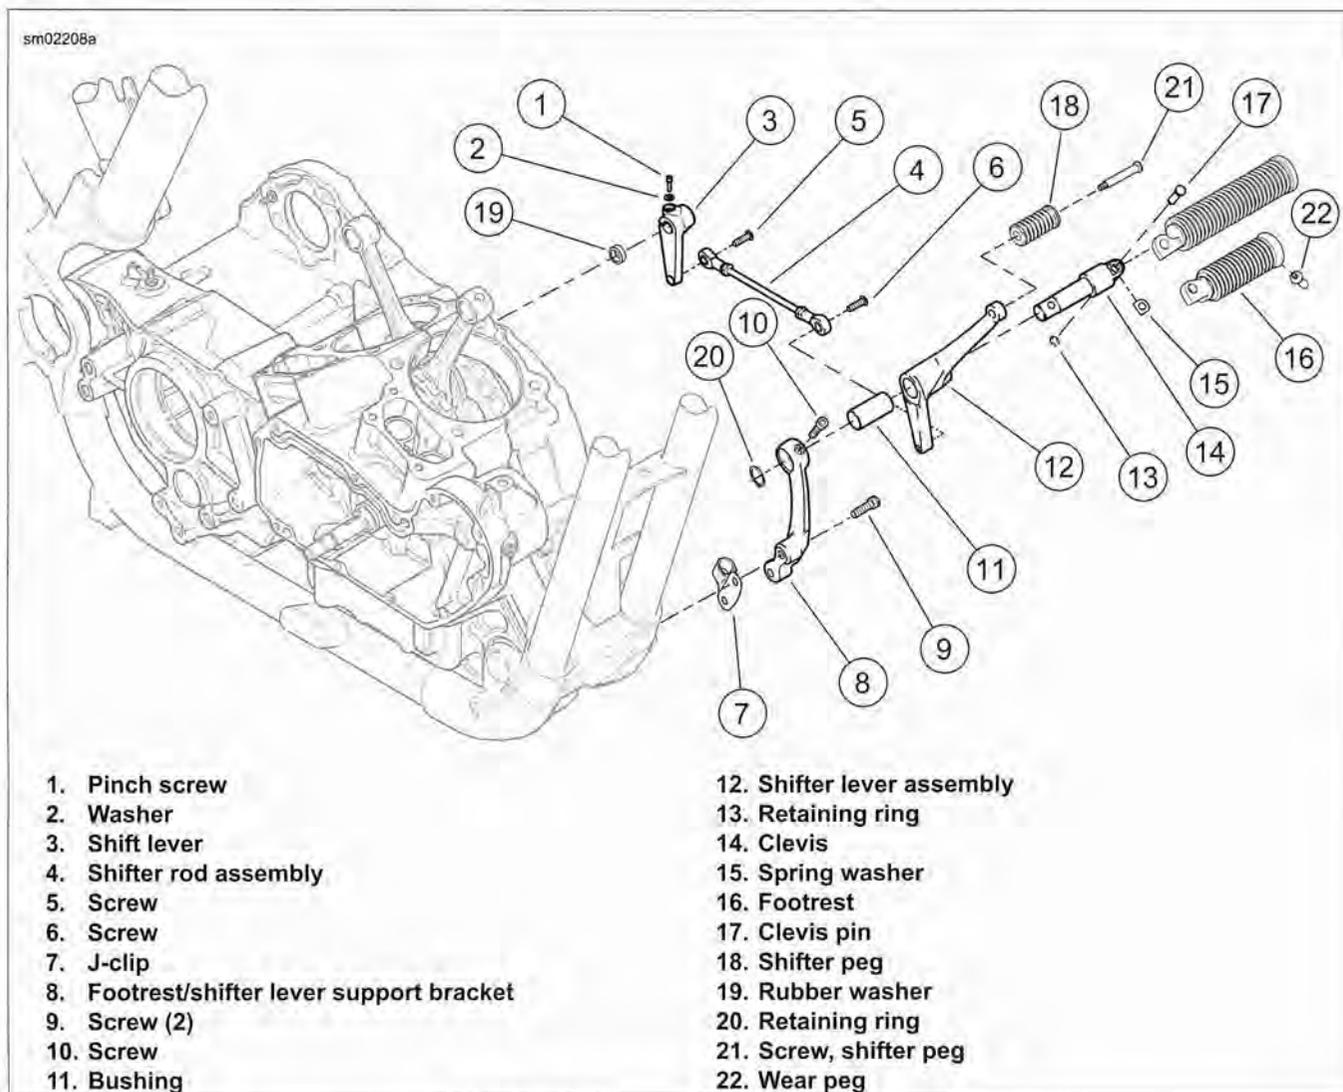

Figure 2-226. Forward Controls - Shifter Side
1. See Figure 2-226. Remove retaining ring (13), clevis pin (17), footrest (16) and spring washer (15). Discard retaining ring.
2. Remove screw (21) and shifter peg (18).
3. Remove shifter rod assembly (4) from shifter lever assembly (12) and shift lever (3).
4. Remove retaining ring (20), screw (10) and clevis (14). Slide shifter lever assembly off clevis. Discard retaining ring.
5. Remove two screws (9), footrest/shifter lever support bracket (8) and j-clip (7) from frame.
6. Remove pinch screw (1), washer (2), shift lever (3) and rubber washer (19) from transmission shifter shaft.
1. See Figure 2-226. Install rubber washer (19) and shift lever (3) onto transmission shifter shaft, with shift lever arm pointing straight down. Secure with pinch screw (1) and washer (2). Tighten pinch screw to 16-20 ft-lbs (21.7-27.1 Nm).
2. Mount j-clip (7) and footrest/shifter lever support bracket (8) to frame with two screws (9). Tighten to 45-50 ft-lbs (61-68 Nm).
- Slide shifter lever assembly (12) onto clevis (14). Mount clevis on footrest/shifter lever support bracket. Line up hole in clevis with hole in support bracket. Secure with screw (10). Tighten to 13-17 ft-lbs (17.6-23.0 Nm). Install retaining ring (20) on end of clevis.
- Mount footrest (16) on clevis with spring washer (15). Make sure spring washer is positioned inside clevis with the square edge toward the inside. Align holes and push clevis pin (17) from top down through hole in clevis. Secure with **new** retaining ring (13).
- Thread screw (5) in one end of shifter rod assembly (4) into shift lever (3). Tighten to 120-180 **in-lbs** (13.6-20.4 Nm).
- Thread screw (6) in other end of shifter rod into shift lever assembly. Tighten to 120-180 **in-lbs** (13.6-20.4 Nm).
- If re-using shifter peg screw (21), clean screw threads and apply one or two drops of LOCTITE THREADLOCKER 243 (blue) to threads.